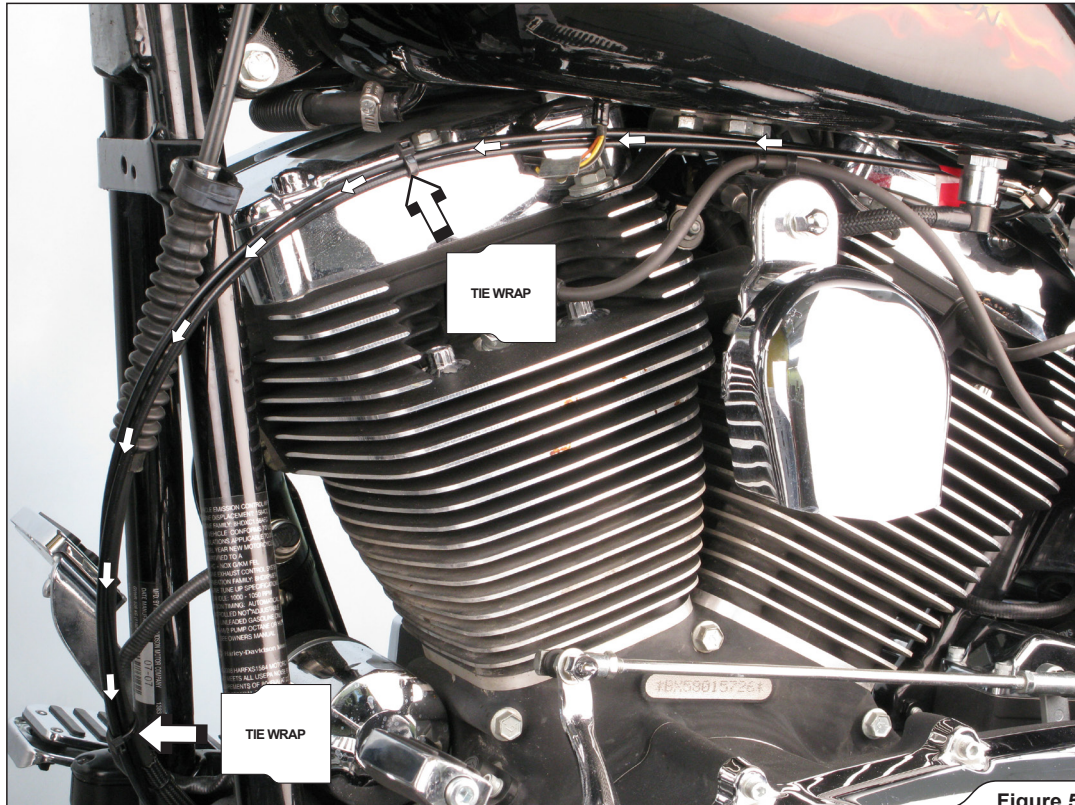

Figure 5
6. Direct and secure (use tie wraps from installation kit) the valve switch cables to the exhaust valves as shown (Figure 5, 6).